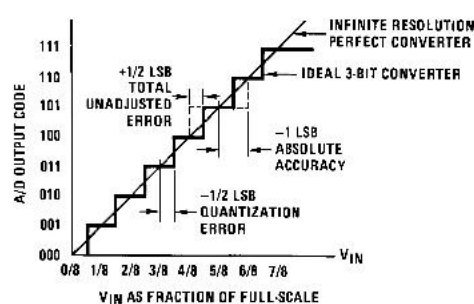

Figure 5. 3-Bit A/D Absolute Accuracy Curve
- (1) Total unadjusted error includes offset, full-scale, linearity, and multiplexer errors. See Figure 5. None of these A/Ds requires a zero or full-scale adjust. However, if an all zero code is desired for an analog input other than 0.0V, or if a narrow full-scale span exists (for example: 0.5V to 4.5V full-scale) the reference voltages can be adjusted to achieve this. See Figure 15.